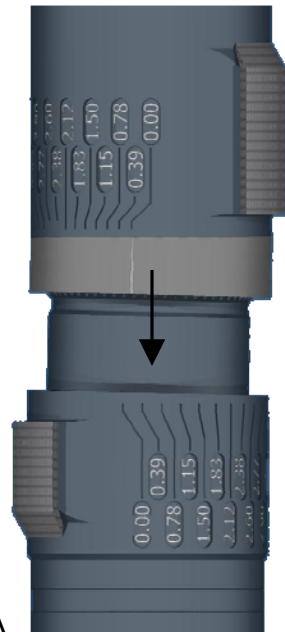

FIG 2A
1. Rotate Lower Adjustable Bend Housing and Bearing Section 6 - 8 full rotations. The Shoulder will be separated by 0.75 to 1.00 inch. See Figure 2A